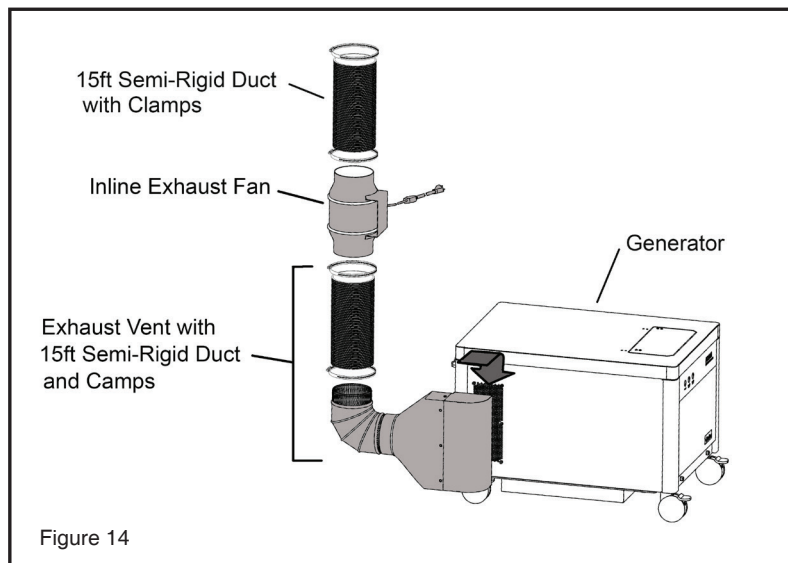

Figure 14
- b. **QUICK METHOD (~2 Min):** Unplug the power cord from the rear of the generator. Open the front panel by loosening the two retaining screws at the bottom. Next, slightly loosen the two brass bleed screws on the bottom of the two right-most blue filters. **DO NOT FULLY REMOVE THE BRASS BLEED SCREWS.** See Figure 14 below for clarification. When the tank pressure gauge reads zero, tighten the brass bleed screws.